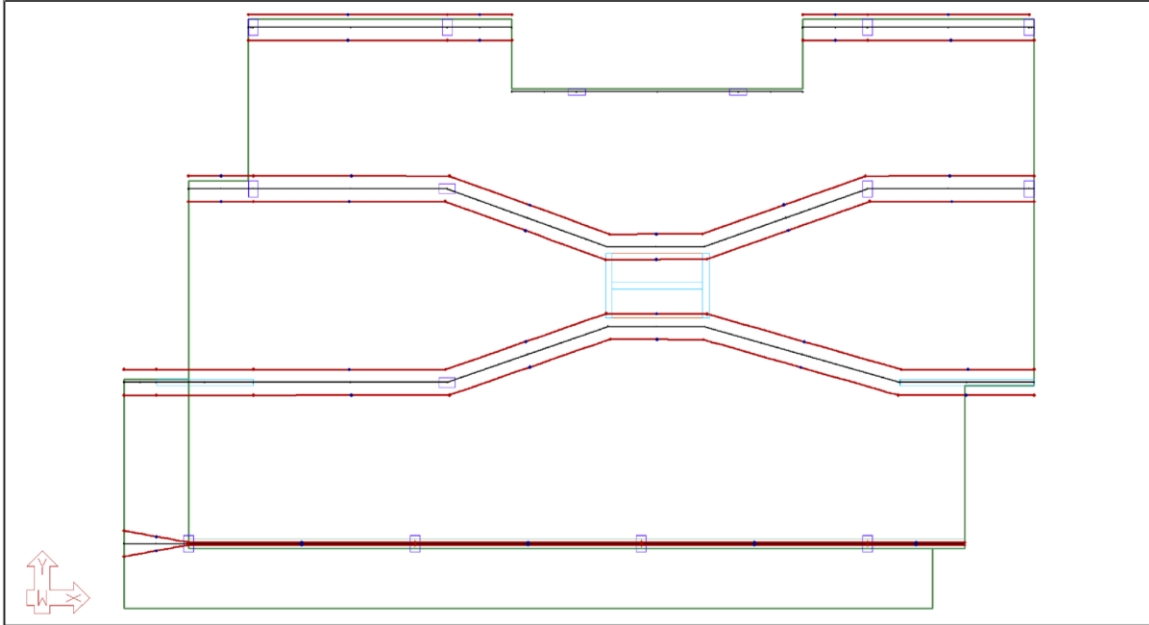

FIGURE 9-39
- At this point you should have a screen showing the model with banded tendons and the X-direction support lines as shown in **FIGURE 9-39.**